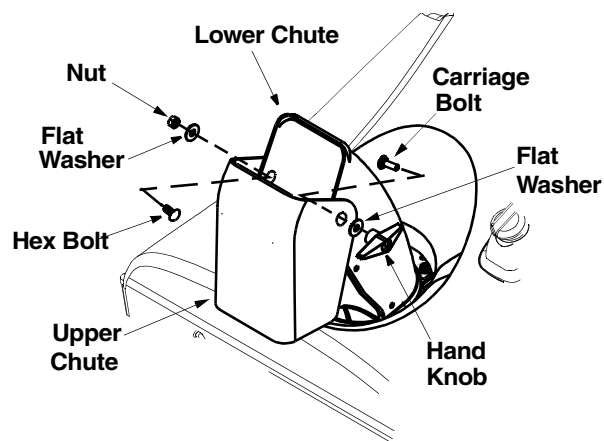

Figure 4
- Turn the chute crank until the chute faces straight to the front. See Figure 4.
- Remove the hand knob, flat washer and carriage bolt from the upper chute. See Figure 4.